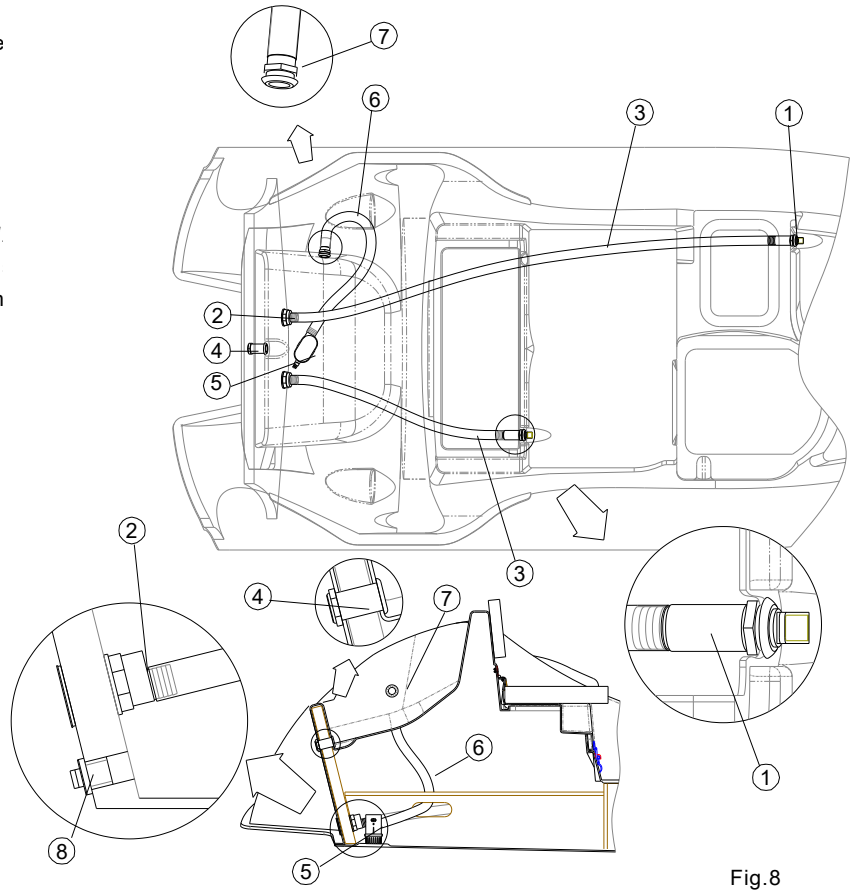

Fig.8
Drain system, (Fig. 8), consists of the three inde systems:
|  WARNING | <p>Bilge valve (8)(Fig.8) should be tightly CLOSED when the boat on the water</p> <p>Bilge valve (8)(Fig.8) should be open when the boat is out of the water</p> |